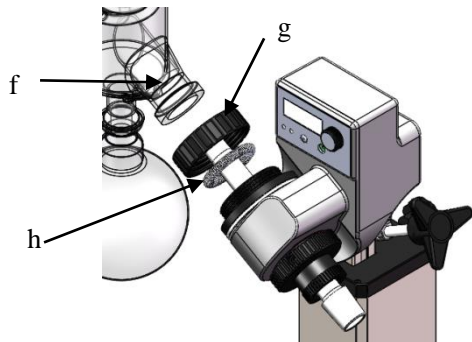
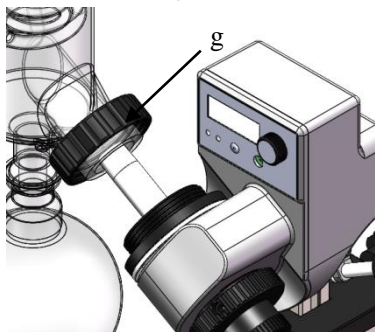

Fig. 16
Fig. 17
- Mount the condenser (f) (Fig. 16 and Fig. 17)